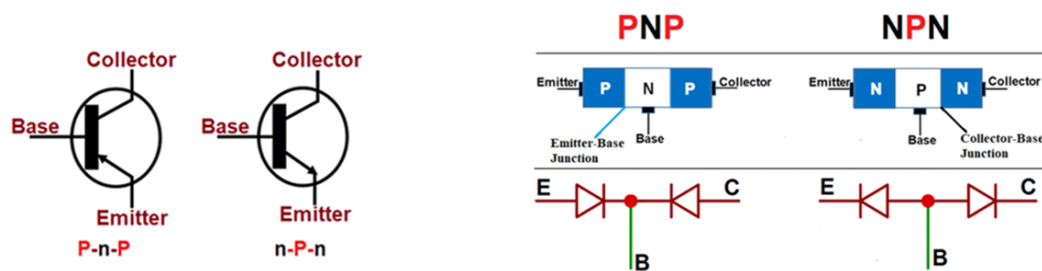

Figure 3.2 Schematic and construction of transistor
- The NPN and PNP transistor are shown in Figure 3.2.